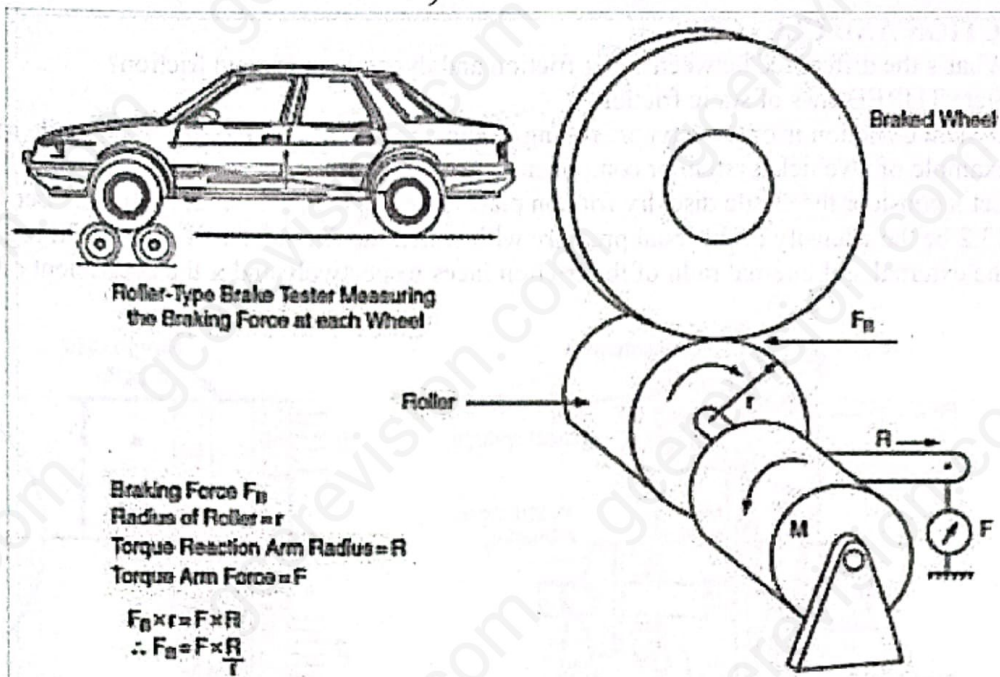

Figure 11
- c. In a test station brake-test on a vehicle (figure 11), the front brake forces total 1400N. If the vehicle has a mass (weight) of 1.2 tons, calculate the braking efficiency. Take  $g = 9.81 \text{ m/s}^2$ . (2marks)